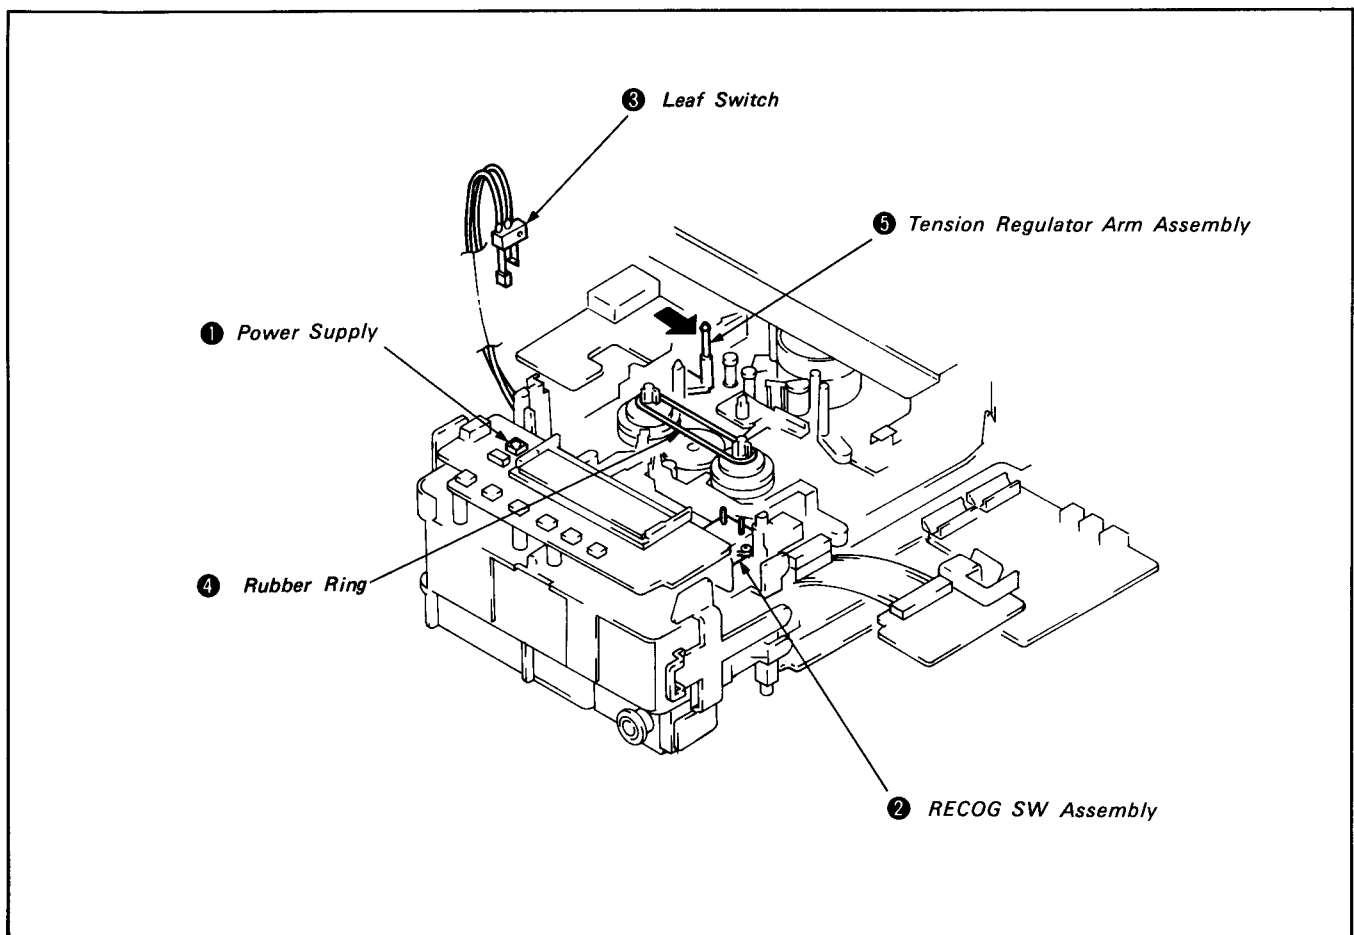

Fig. 8-2.
1. Method to loading (See Fig. 8-2)
2. Method to set playback mode (See Fig. 8-2)
3. Method to set recording mode (See Fig. 8-2)